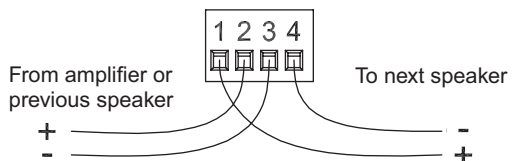

Figure 10: Daisy-chain wiring
2. Daisy-chaining. Connect the wire pair of the subsequent speaker to pins 1 and 4. When one input connector is removed, subsequent speakers will also be disconnected. See Figure 10.